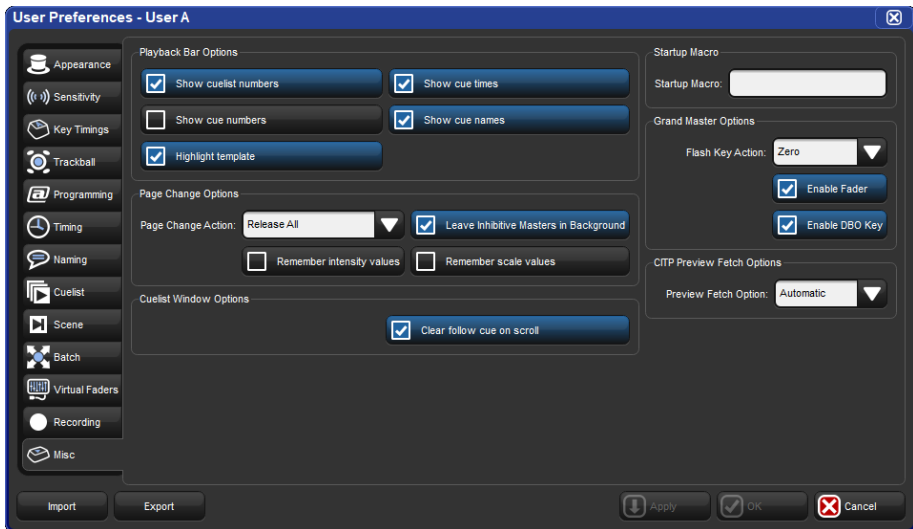

Figure 18.1. The Misc pane of the User Preferences window
- Setup → Preferences → Misc : see Figure 18.1, “The Misc pane of the User Preferences window”.